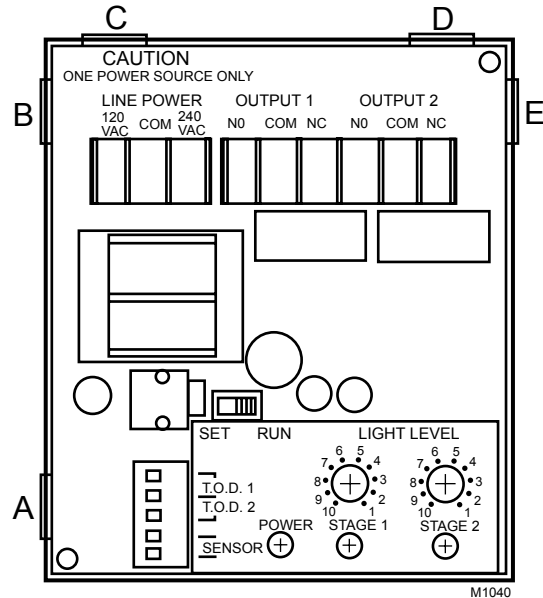
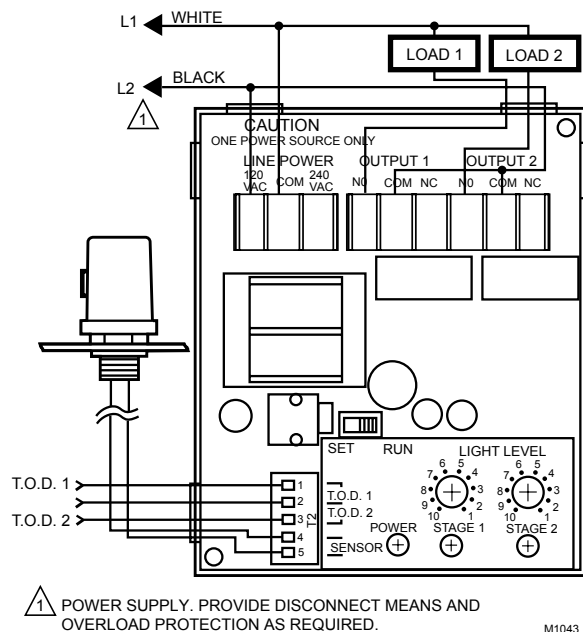

Fig. 3. Knockout locations and internal device layout.
Fig. 4. Wiring for 120 or 240 Vac input and load.
- When wiring the input power, photocell sensor inputs, TOD and load relay terminals. Refer to Fig. 4 through 7 for typical wiring and application examples.
Refer to chart on the inside of the controller cover or Fig. 3 for locating the power inputs, photocell sensor inputs, TOD and load relay terminals. Refer to Fig. 4 through 7 for typical wiring and application examples.
In the following procedures, refer to the diagram inside the CR7075A cover or Fig. 3. These show locations of all operating controls, LED lights, and wiring connection points.